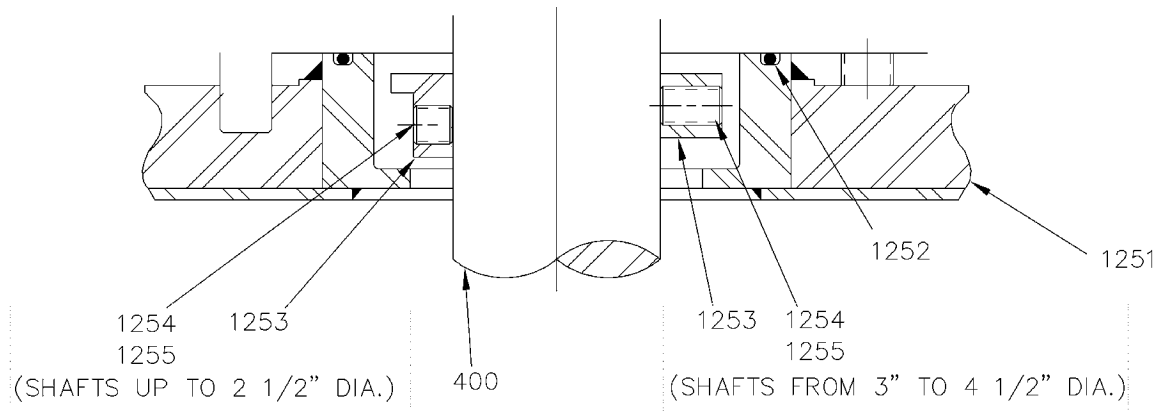

Figure 3. Types of Drop Collars
- Install drop collar [1253], with the flanged side up if applicable (refer Figure 3, page 18), onto the tapered end of the agitator extension shaft [400]. Slide the collar down until the collar covers the setscrew relief area machined in the extension shaft. Rotate the collar until one of the tapped holes in the collar lines up with the spot on the shaft. Install half dog point setscrew [1254] into the spot on the shaft. Install the remaining cup point setscrews [1255] in the collar. Torque the setscrews to the value shown in the APPENDIX, Page 101.